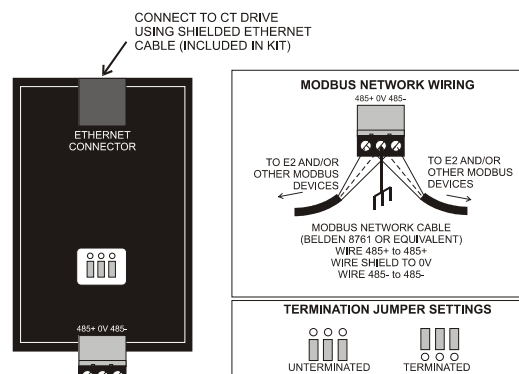

Figure 4 - CT Drive Interface Wiring and Termination Settings
2. Connect the MODBUS network cable to the RS485 network connector on the CT Drive Interface. Wire all 485+ terminals on the E2 and CT Drive Interfaces to the same wire color, and wire all 485- terminals to the other wire color. All bare shield wires should be connected to the 0V terminals. The 0V terminal must also be connected to earth ground with a 14AWG wire no longer than 6 inches. You may use the earth ground connection on the motor drive. Refer to *Figure 4*.
3. Terminate the two devices at the endpoints of the MODBUS daisy chain. For the E2, the termination jumpers will be next to the COM port connector. For the VSDs, use the termination jumpers on the CT Drive Interface. Set the jumpers of the end devices to the TERMINATED positions and all other devices to the UNTERMINATED position. Refer to *Figure 4*.